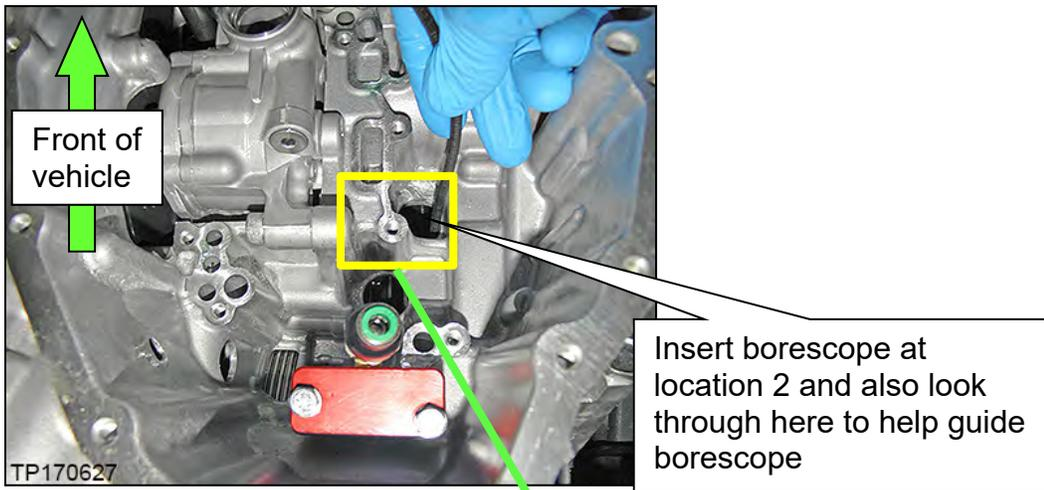

Figure 20
18. Insert the borescope in the second location where shown in Figure 20.